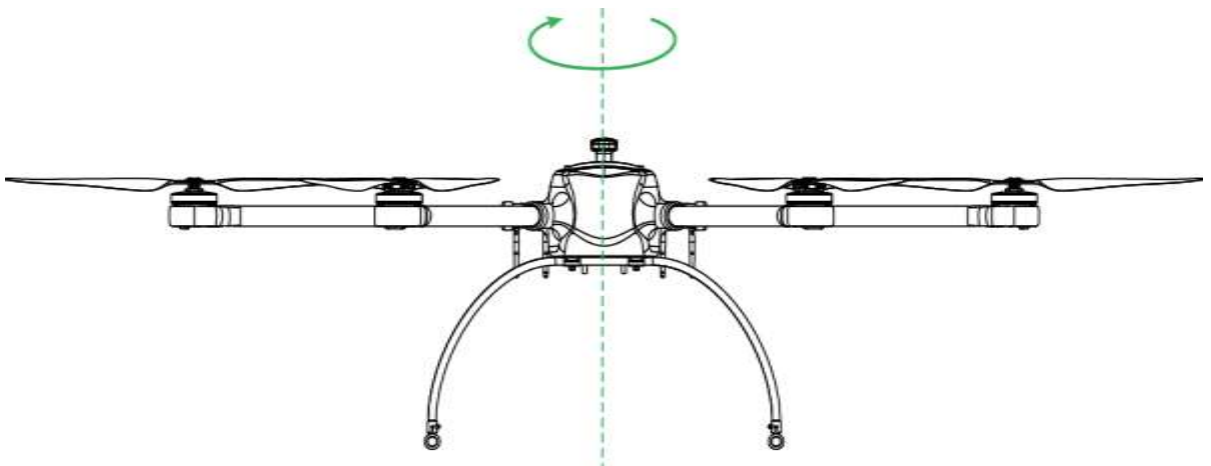

Figure 3-32
Step 3 Keep the aircraft horizontal and rotate it for one circle horizontally, as shown in Figure 3-32.